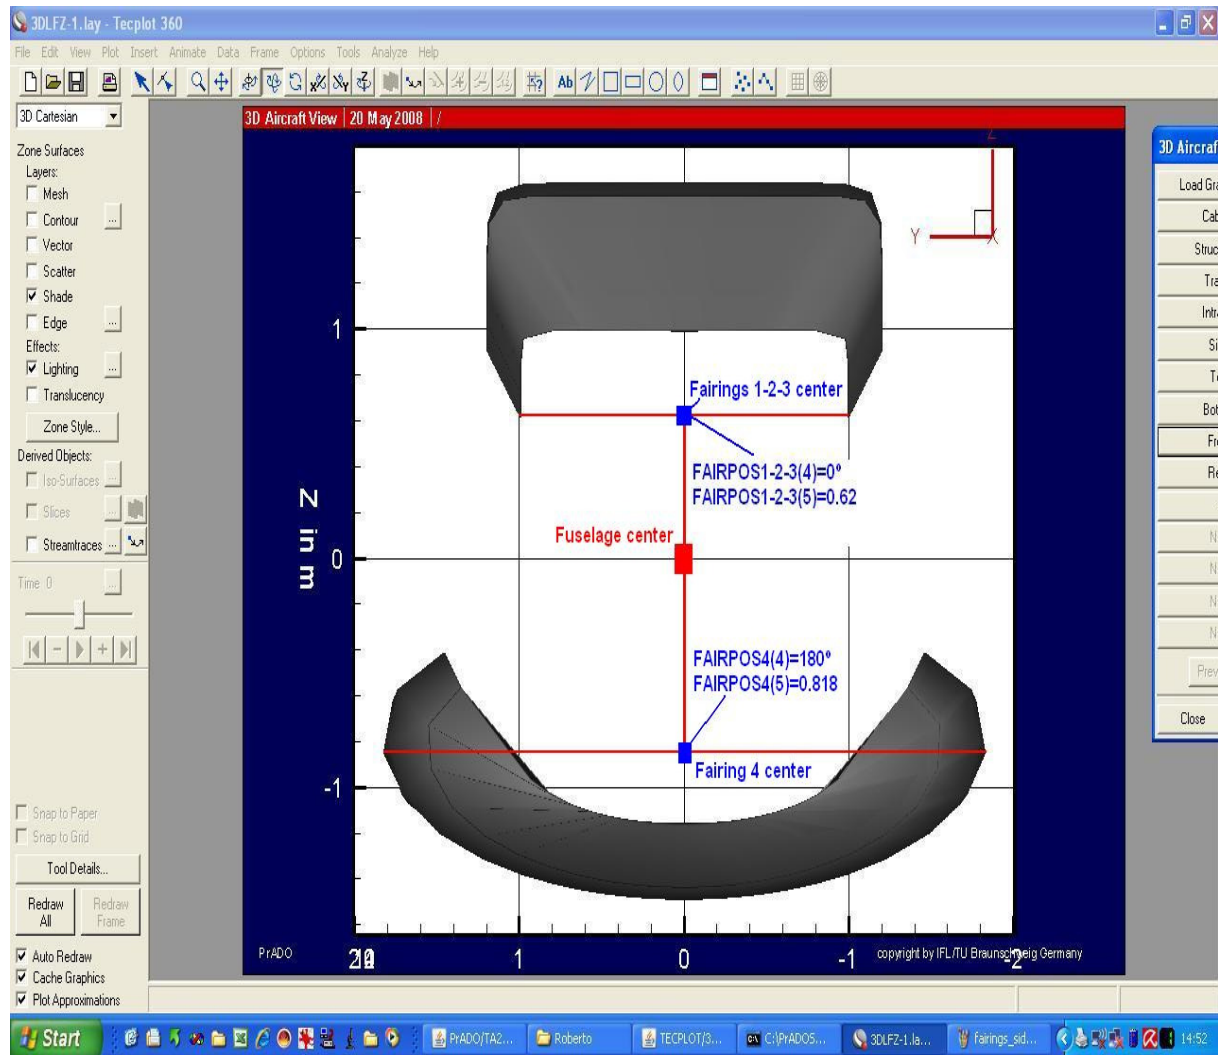

Figure 2.2 Explanation of FAIRPOS_i (4) and FAIR2POS (5)
Figure 2.2 shows also the four fairings in the real position, but in a front view. Here it's possible to see how FAIR2POSi (4) and FAIR2POSi (5) work, and where are the centers of the fairings respect to the fuselage center.